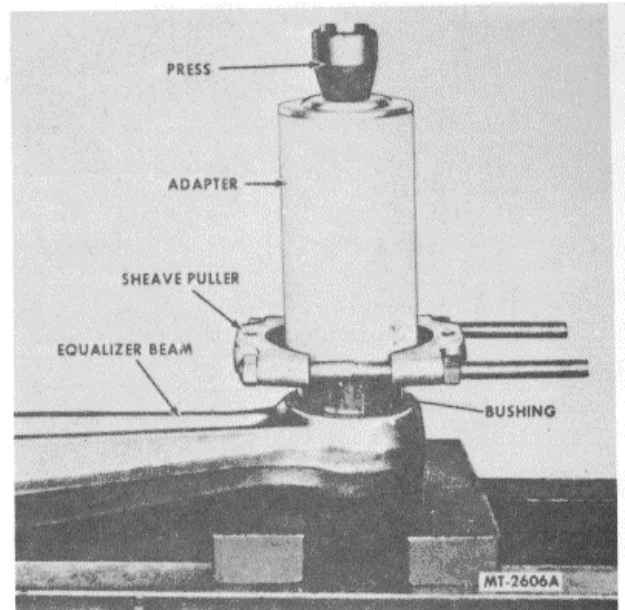

Fig. 9 Installing Equalizer Beam End Bushing
2. Install sheave puller over bushing and compress rubber until puller jaws will seat on the end of the bushing sleeve. Refer to Fig. 9.
2. Install sheave puller over bushing and compress rubber until puller jaws will seat on end of bushing sleeve. Refer to Fig. 9.